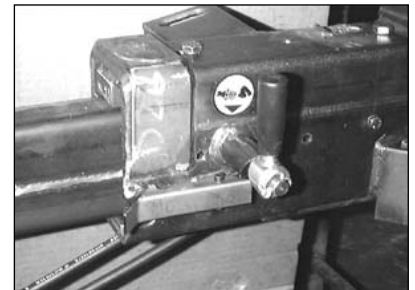

fig. 13
- Position lever **B** (fig. 13) upwards; the spring loaded security pin will be released from it's position.